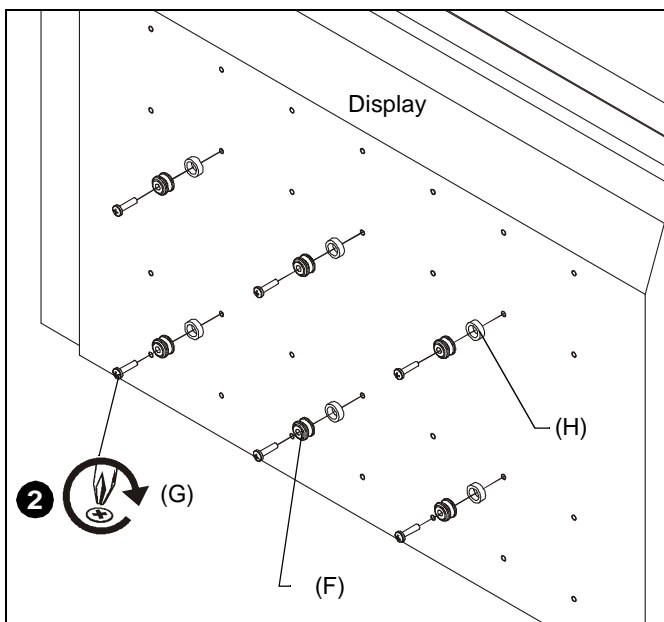

Figure 2
2. Attach mounting buttons (F) to back of display using M6 x 25mm Phillips head cap screws (G) and spacers (H). (See Figure 2)